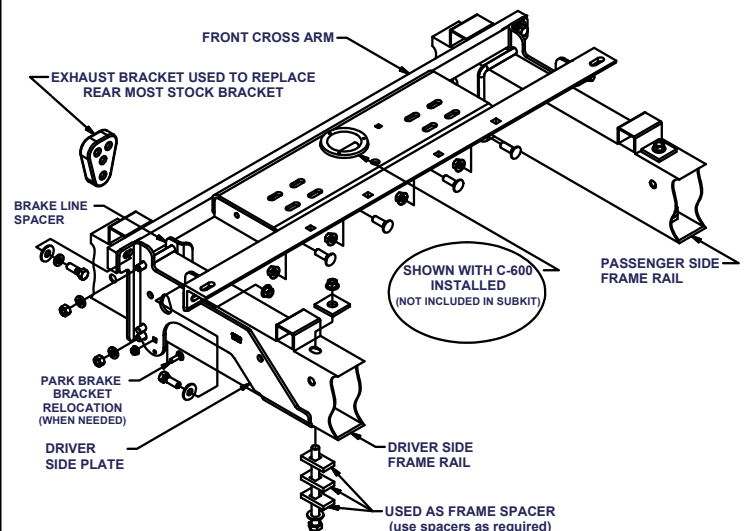

FIGURE 2
- 4) Install the rear cross arm using the clearance notch with the angle oriented in an inverted V position. **On 2006 and newer models**, the angle leg with the notches should face the front of the truck when installing through the notch. Slide the cross arm through until it is resting on the truck frame on both sides. Push the rear cross arm towards the back of the truck against the truck bed rail, then rotate it so that the leg against the bed frame is facing the rear of the truck. (As shown in **Figure 2**)
- 5) Raise the center section in position between the cross arms with the center hole towards the front of truck. The round hitch receiver that protrudes from the top of the center section must fit through the hole in the truck bed. Using (4) 1/2" bolts, washers, and lock washers, attach the center section to the threaded holes in the front cross arm. Next, attach the rear cross arm (angle iron) to the center section using (4) 1/2" carriage bolts and flange nuts. **(Finger tight only.)**
- 7) Square the center section and cross arms across the frame. Thread a 1 1/2" bolt with a flat and lock washer through the front flange of the sideplate into the front cross arm. Place a 1 1/2" bolt with a flat washer through the back flange of the sideplate into the rear cross arm. (As shown in **Figure 2**) **Finger tight** with a 1/2" flange nut.